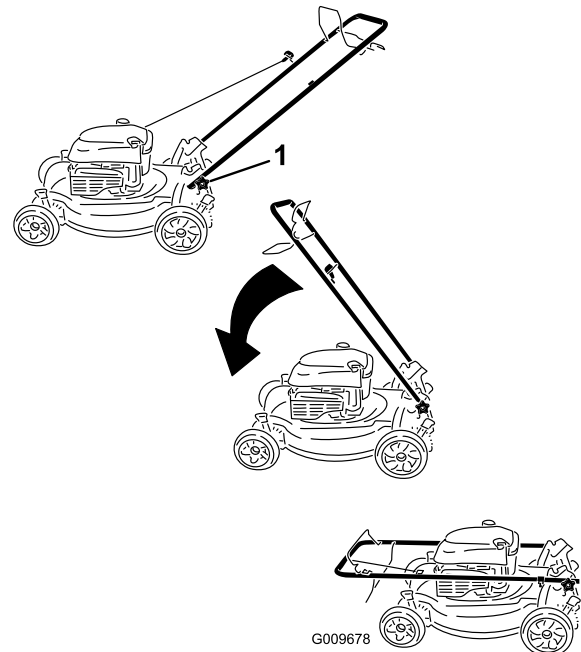

Figure 30
1. Loosen the handle knobs until you can move the handle freely (Figure 30).
1. Handle knob (2)
2. Move the handle forward as shown in Figure 30.